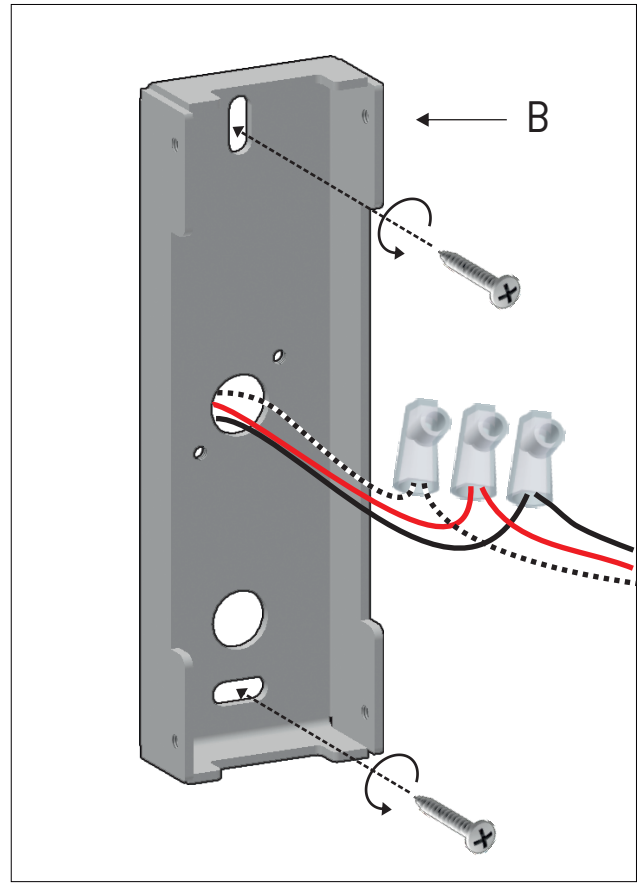

Figure 2
2 - Insert the electrical wires through the mounting bracket (B) and fix it to the wall. Make the electricat conections. Figure 2.